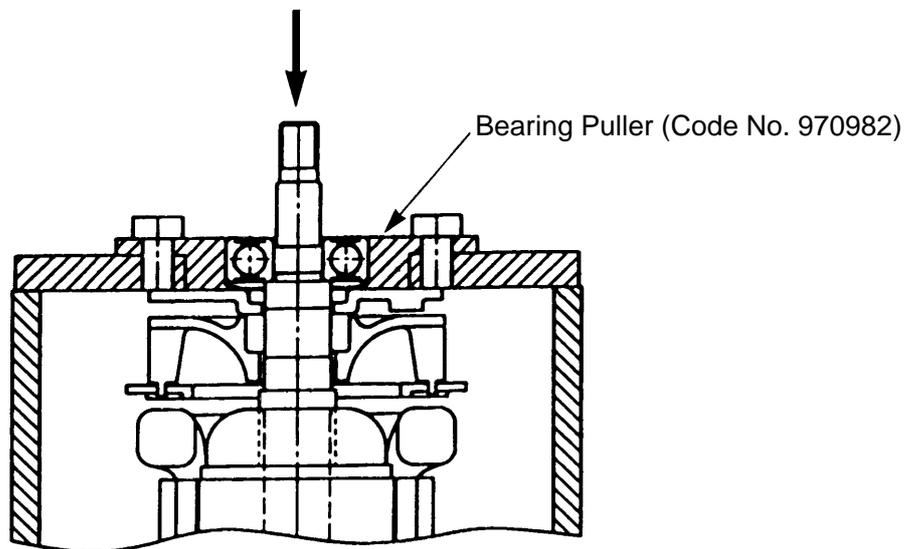

Fig. 4
(5) Remove the four M5 x 16L Seal Lock Screws [28].
(6) After removing the three M4 x 10 Seal Lock Screws [1], the Armature [13] can be extracted together with the Bearing Cover [12], and related parts.
(7) Carefully wrap the Armature Ass'y [13] with a soft, clean rag to protect it from being damaged, and clamp it securely in a vise. Then, remove the M7 Special Nut [5], and extract the Pinion [6].
(8) For the models indicated under Fig. 4, the Ball Bearing [9] can be removed from the Armature [13] by utilizing a J-204 Bearing Puller (special repair tool, Code No. 970982) as illustrated. After the Ball Bearing has been removed, the Bearing Cover [12] can be easily taken off.